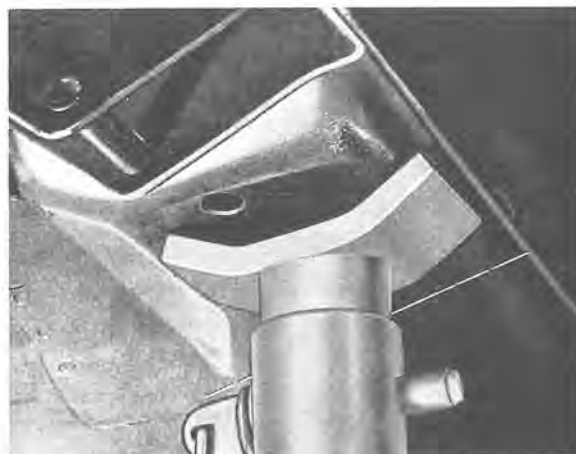

Fig. 7-4. Location of axle prop for propping up vehicle rear end
1. Remove the hub cap and loosen the wheel nuts a couple of turns. Jack up the vehicle. Place axle props in front of the rear jack attachments according to Fig. 7-4. Remove the wheel.
1. Remove the hub cap. Slacken the wheel nuts a couple turns. Jack up the rear end of the vehicle at the jack attachments. Place blocks in front of the jack attachments according to Fig. 7-4. Remove the wheel. Unscrew and remove the shock absorber.
1. Raise the vehicle by placing props in front of the rear jack attachments according to Fig. 7-4. Do not remove the jack.
1. Raise the rear end of the vehicle by placing props in front of the rear shock absorber attachments according to Fig. 7-4.